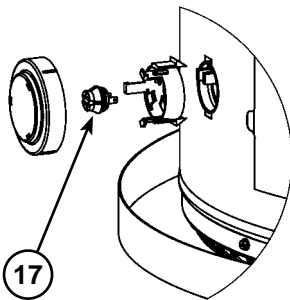

Figure 8
- 17 Flammable Vapour Sensor (under cover) (see Figure 8)